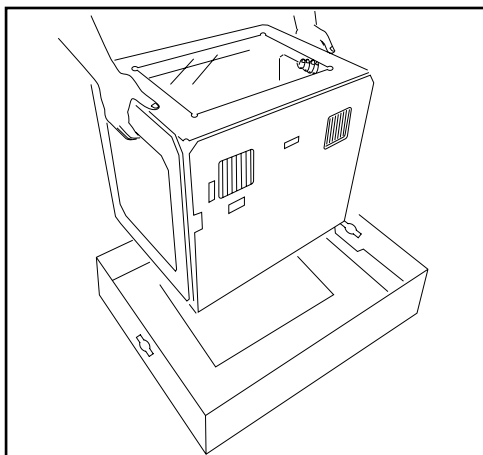

Figure 2.5 Lift out the 3D printer
- 3 After taking the printer out of its protective bag, grasp it firmly by the sides and lift it onto a table (fig. 2.5).